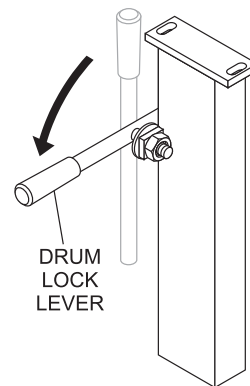

Figure 24. Drum Lock Lever
- Manual dump machines only: When mixing plaster or mortar, the **drum lock lever** (Figure 24) should be in the **horizontal (down)** position. (Does not apply to hydraulic dump mixers.)